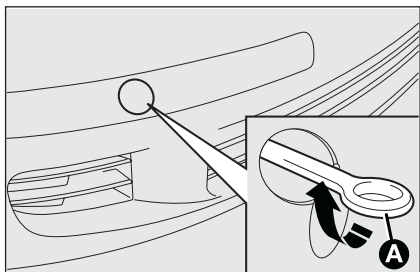
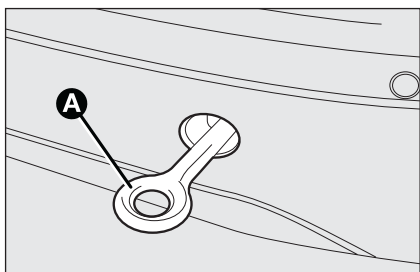

fig. 45
fig. 46
- ❑ tighten the ring on the rear **fig. 46** or front **fig. 45** threaded pin.